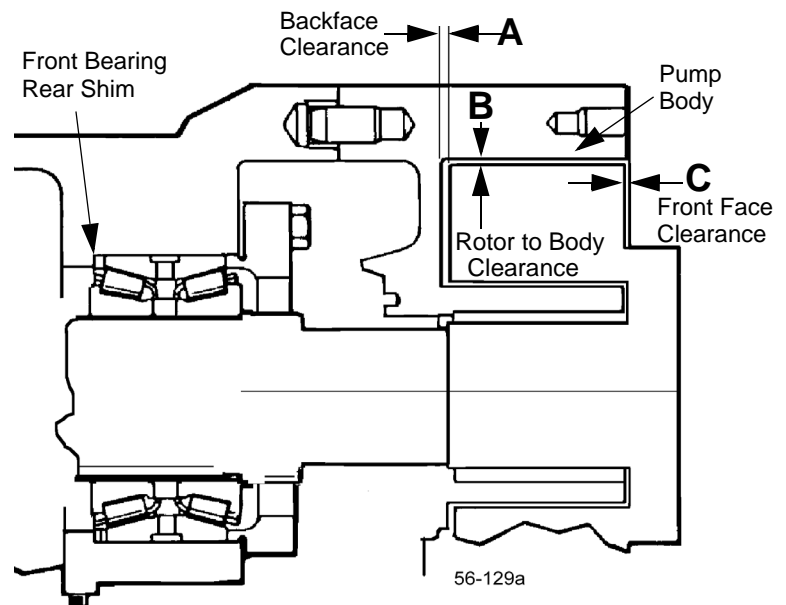

Figure 63 - Clearance Measurements
- With feeler gauges, measure the rotor backface clearance (Figure 63, item A), through the port or from the front.
- Measure the rotor front face clearance (Figure 63, item C).
- Measure the rotor to body clearance (Figure 63, item B).